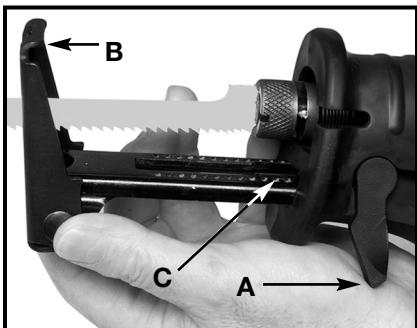
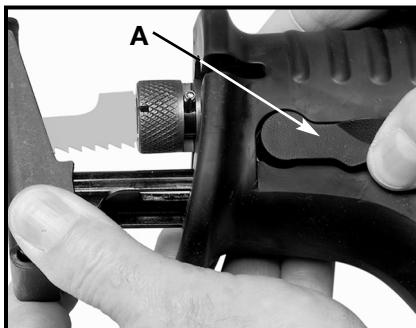

Fig. 12B
Fig. 12C
2. The **Models 746 and 747** are supplied with a keyless Quik-Change™ pivoting guide shoe. To adjust, rotate lever (A) Fig. 12B, releasing the pivoting guide shoe (B). Adjust to desired position and close lever (A) Fig. 12C. The keyless Quik-Change™ pivoting guide shoe is designed with a raised lip (C) at the end that prevents the guide shoe from locking in position if it is extended out too far. After adjusting, make sure the locking lever is completely closed in the locked position (A) Fig. 12C.